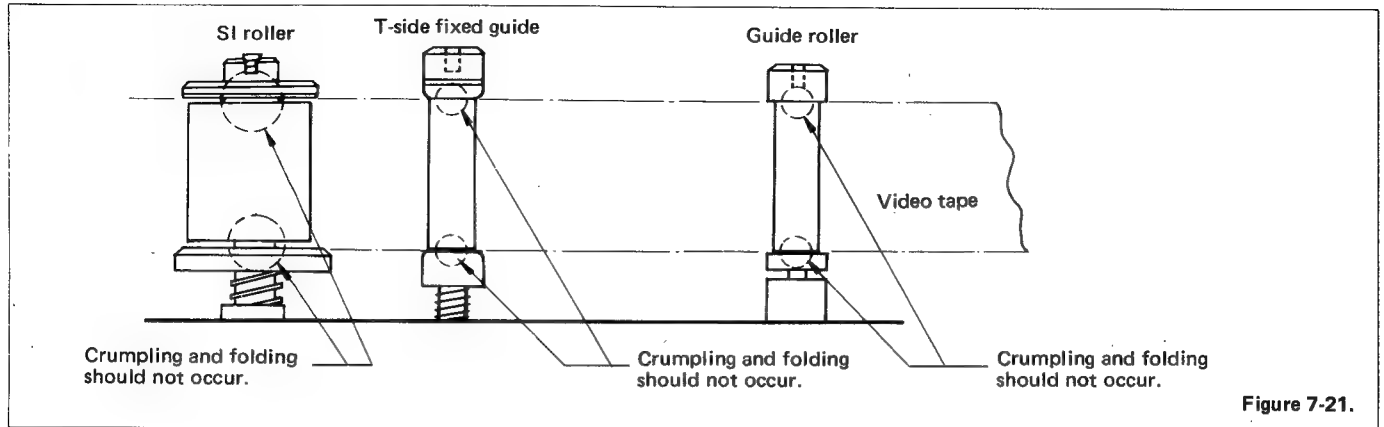

Figure 7-21.
neither crumpled nor folded at its edges (see Figure 7-21).
2. After adjustment, be sure to adjust tape travel and the guide rollers (T and S). Then check the height of the SI roller fixed guide as shown in Figure 7-21.